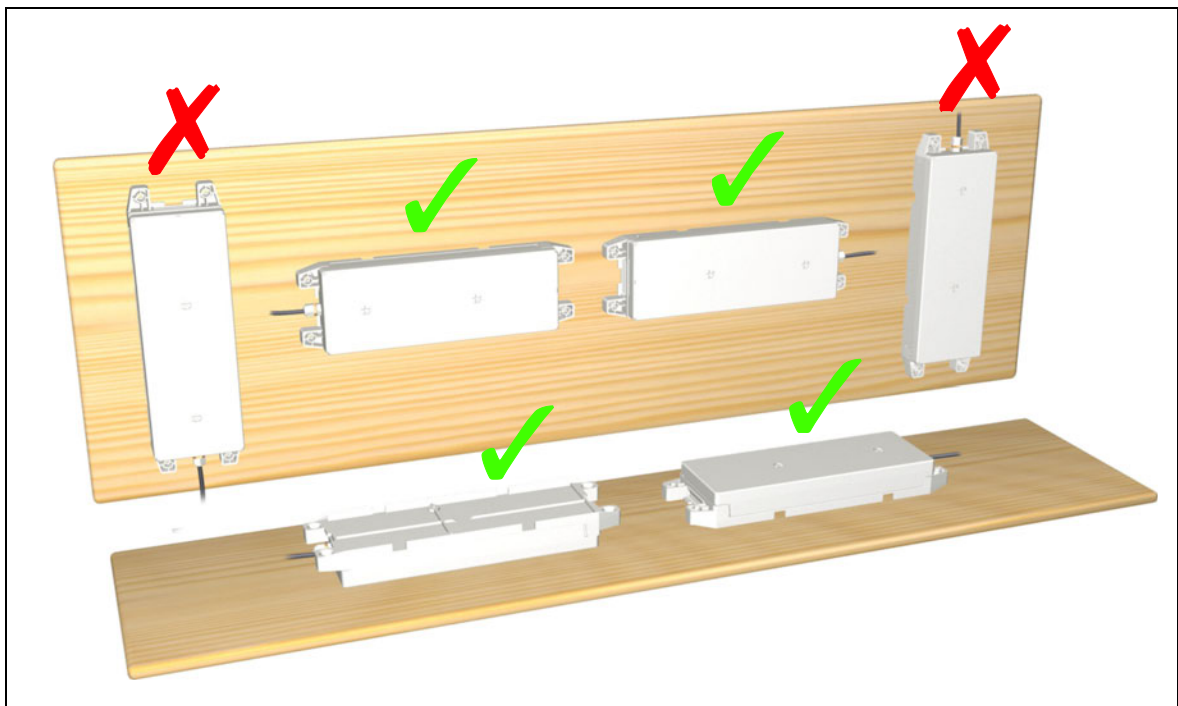

Figure 11 Permitted and prohibited positions when charging the AG300
<p>The following information is important when mounting the AG300:</p> <ul style="list-style-type: none"> • Charge the AG300 completely (for at least 24 hours) before first use. The installed batteries achieve their full capacity only after 5 to 10 discharge cycles. • The air vents on the AG300 must not be covered during the charging process. • When mounting the AG300, make sure that it is not lying on its top (upside down) and the connecting cable is not facing downwards. The AG300 may only be charged when it is properly positioned (as shown in Figure 11). • Allow the AG300 to rest for about 1 hour after charging it; this will prolong its life-span.
- Charge the AG300 only in its permitted charging position (as shown in Figure 11).
<p>Note the following information when charging:</p> <ul style="list-style-type: none">• Charge the AG300 completely (for at least 24 hours) before first use. The installed batteries achieve their full capacity only after 5 to 10 discharge cycles.• Refer to Figure 11 for the permitted charging positions.• Allow the AG300 to rest for about 1 hour after charging it; this will prolong its life-span.